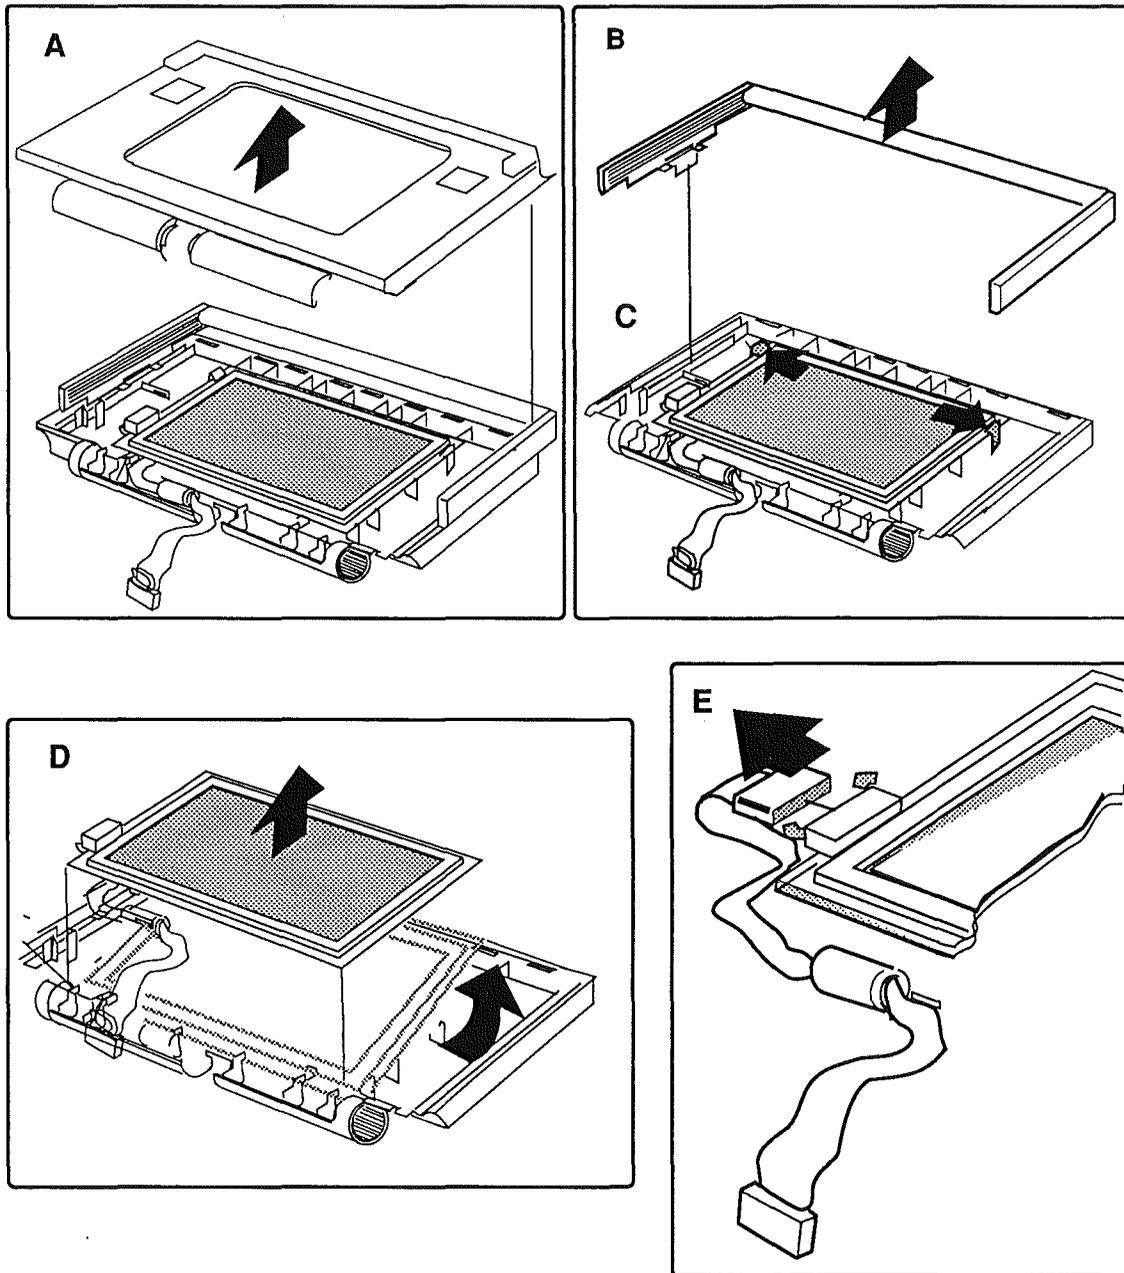

FIGURE 14
8. **Figure 14-A.** Lift the display bezel off the display housing.
9. **Figure 14-B.** Remove the carrying handle from the display housing.
10. **Figure 14-C.** With your thumbs, pull on the two plastic clips at the upper left and right sides of the display. Lift up the display with your index fingers.
11. **Figure 14-D.** Slide the display up and out of the housing.
12. **Figure 14-E.** Disconnect the display cable.